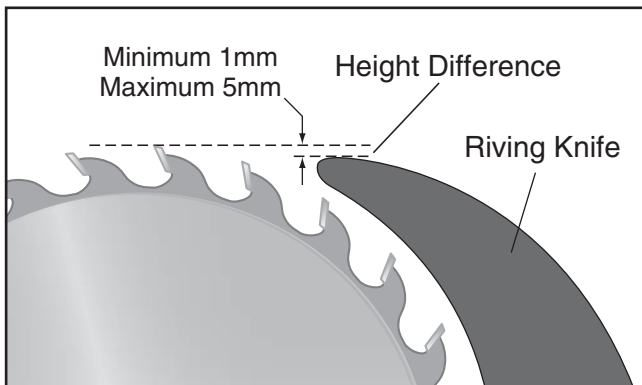

Figure 54. Height difference between riving knife and blade.
The key difference between a blade splitter and the riving knife is that the riving knife mounts below the blade's highest point of rotation, as shown in **Figure 54**.
6. Position the riving knife about 3mm or 1/8" away from the nearest tooth on the main blade and slightly below the highest tooth on the blade (see **Figure 54**).